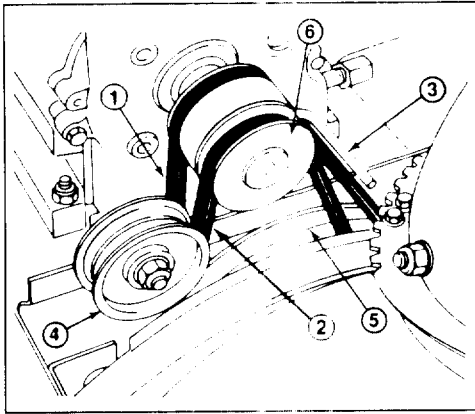

Figure 24
3. Remove auger/impeller drive belt from engine pulley and large auger/impeller pulley (Fig. 24).
4. Install new belt around large auger/impeller pulley (Fig. 24). Next, loop belt over engine pulley, making sure that belt is on inside of idler pulley and belt guide (Fig. 24).
6. Reinstall belt cover with (2) screws.
4. Remove auger/impeller drive belt from engine pulley and large auger/impeller pulley (Fig. 24).
8. Set unit upright and remove traction drive belt from engine pulley and large traction pulley (Fig. 24).
9. Install new belt around large traction pulley. Next, loop belt over engine pulley, making sure that belt is on inside of belt guide (Fig. 24).
13. Reinstall auger/impeller drive belt around large auger/impeller pulley and engine pulley, making sure that belt is on inside of idler pulley and belt guide (Fig. 24).
14. Reinstall belt cover with (2) screws.